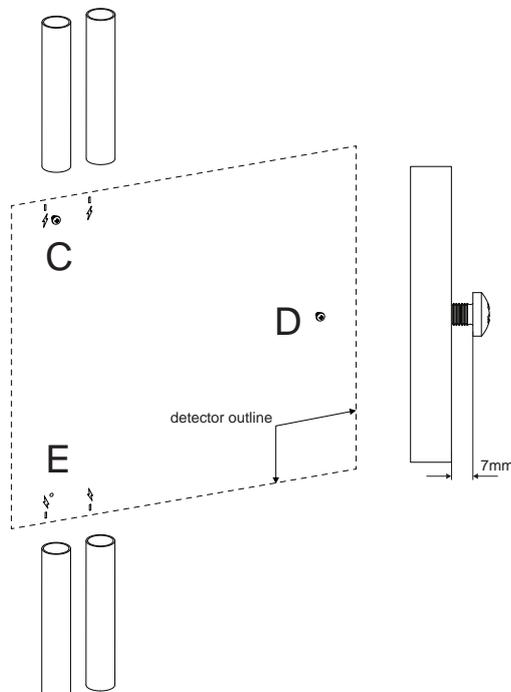

Figure 4-9: Insert mounting screws
3. Insert two M4 button head screws at positions C and D such that the screw head is protruding 7 mm from the wall (Figure 4-9). Drill a pilot hole at position E for later insertion of a screw at Step 9.